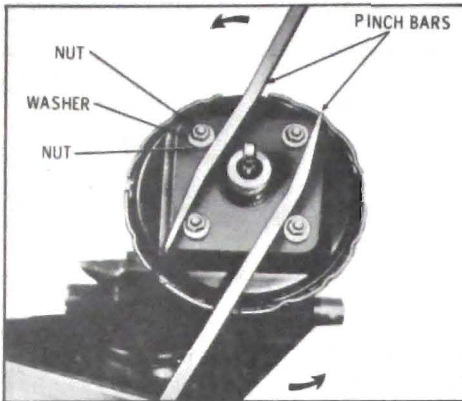

Figure 9-20—Power Brake Unit
2. With the master cylinder reservoir unit firmly clamped in a vise, rotate the housings counterclockwise into the unlocked position. Use pry bars to assist removal as shown in Figure 9-20.